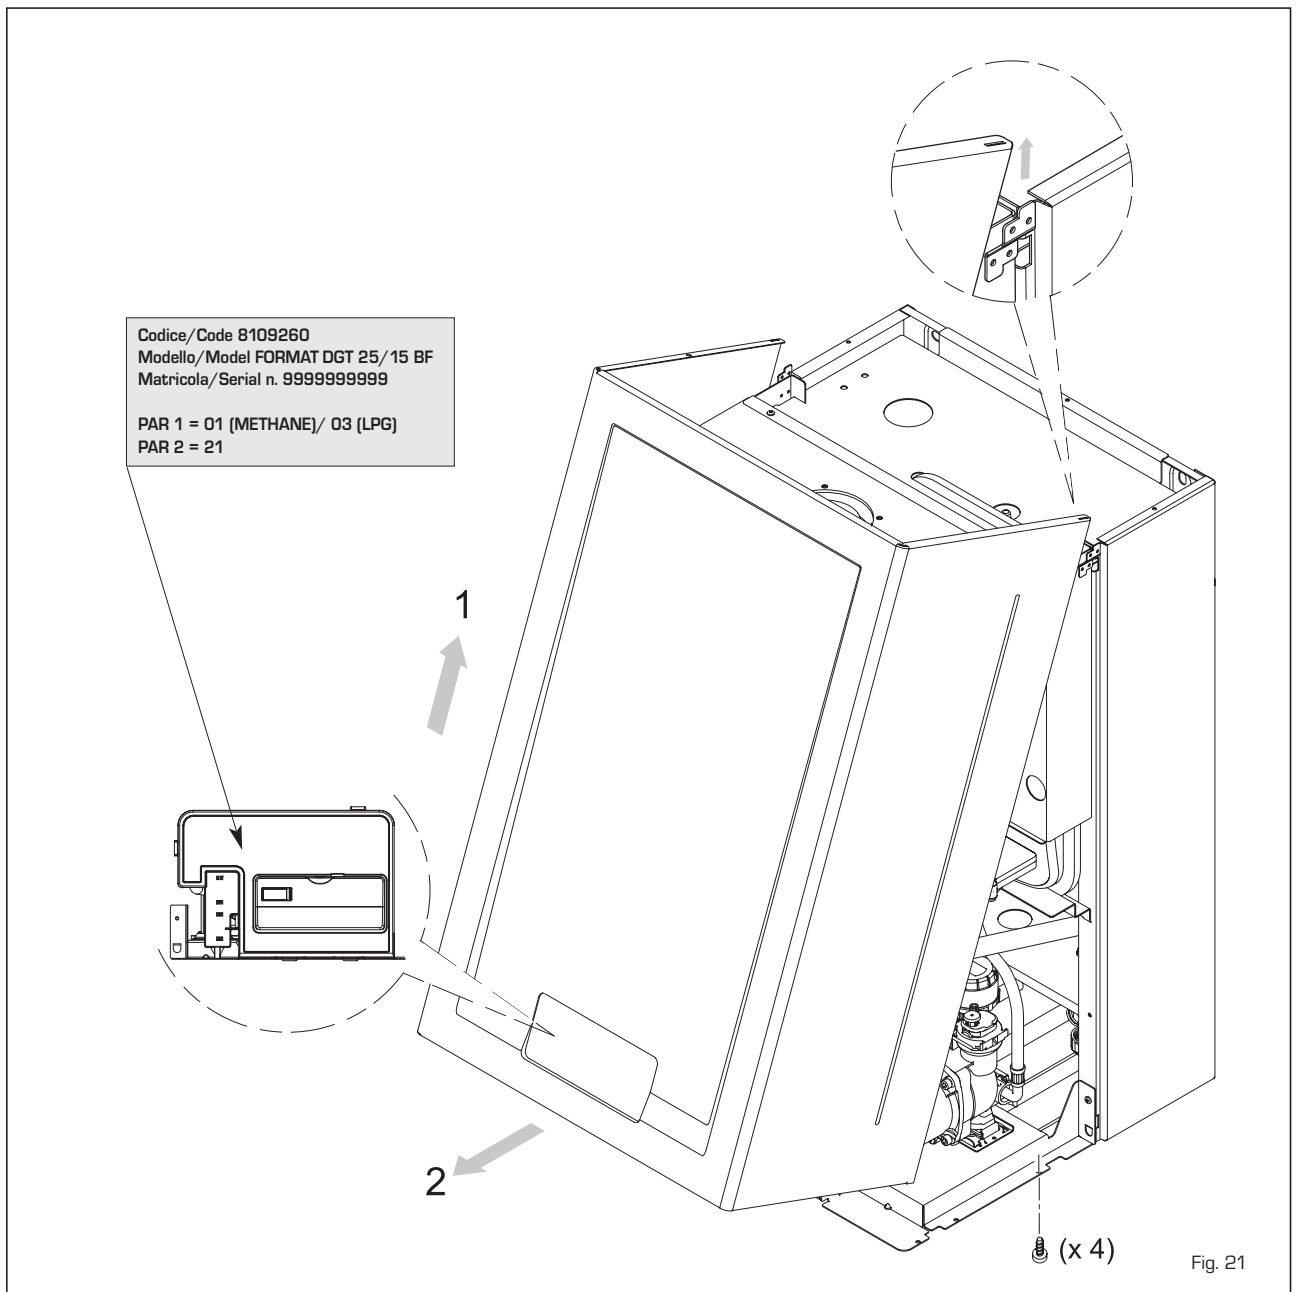

Fig. 21
4.3 DISASSEMBLING THE SHELL (fig. 21)
The casing may be removed completely to facilitate boiler maintenance, as shown in fig. 21. Turn the panel control forward for access to the internal components of the boiler.